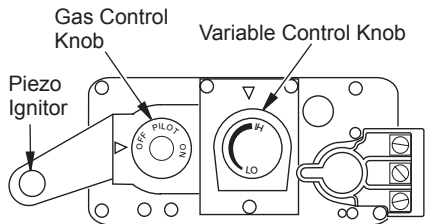

Figure 44 - Control Valve
5. Wait five (5) minutes to clear out any gas. Then smell for gas, including near the floor. If you smell gas, STOP! Follow "B" in the safety information above. If you don't smell gas, go to the next step.
7. Turn gas control knob counterclockwise  to PILOT (see Figure 44)
8. Push in gas control knob all the way and hold. Immediately light pilot by repeatedly pressing the piezo spark ignitor until a flame appears. Continue to hold for about one (1) minute after pilot is lit. Release gas control knob and it will pop back. Pilot should remain lit. If it goes out, repeat steps 5 through 8.